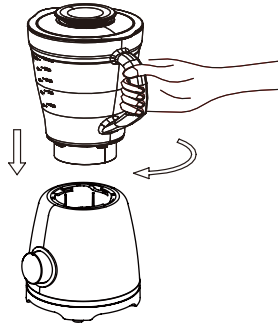

Fig 2
2. Place the Blender jug on the Main body and rotate it clockwise (Fig 2). See also chapter ‘Safety locking system’.